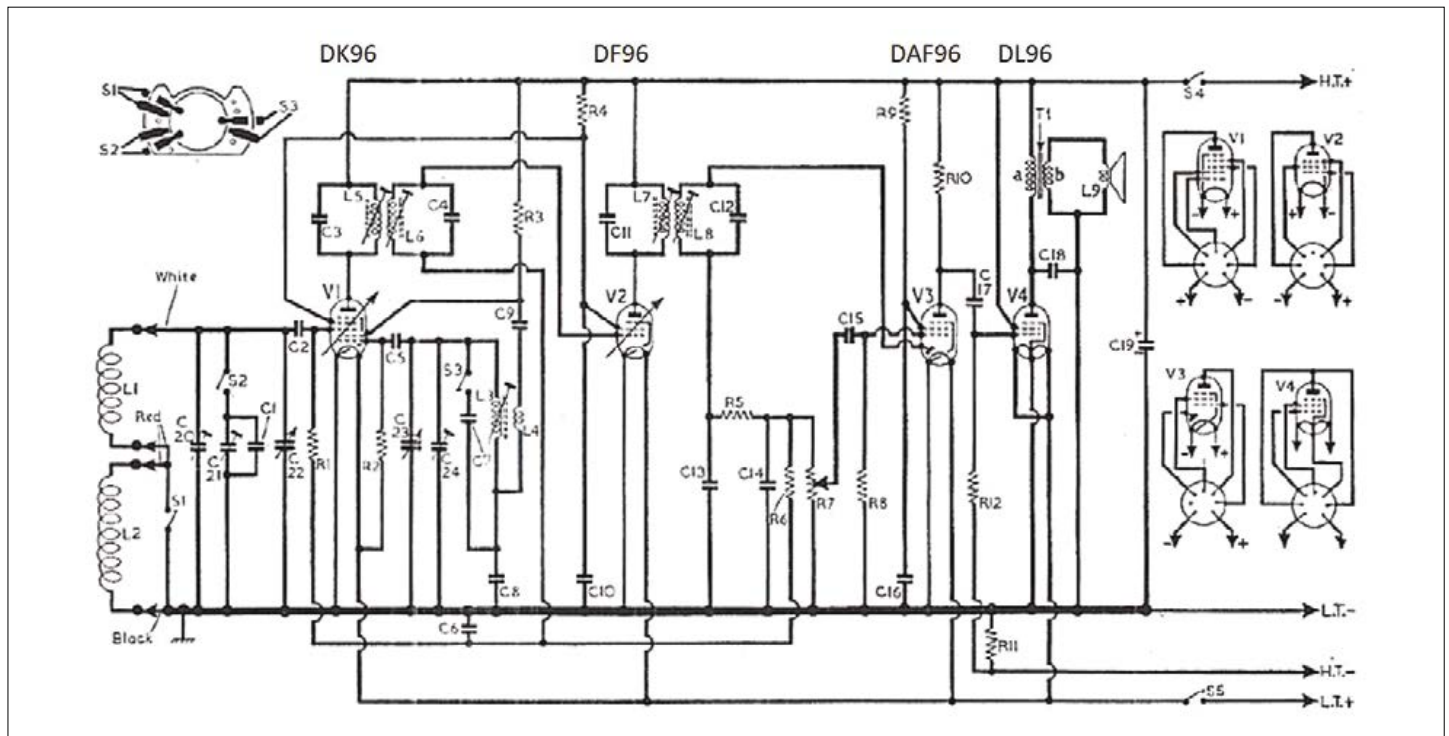

Figure 3. Circuit diagram taken from the *Trader Service Sheet* for the P87BQ radio [3].
Referring to **Figure 3**, the circuit itself is pretty straightforward. A tube lineup like the Dx96 series was designed by Philips/Mullard for a certain basic circuit configuration, allowing set makers to add features like tone controls or multiple band coverage. The DK96 heptode (V1) is used as a classic RF amplifier and mixer. For the MW band switch S1 is closed (low inductance), while S2 and S3 are open (low capacitance). For the LW band S1 is opened (both frame antennas in series) while S2 and S3 are closed. The intermediate frequency (IF) is 470 kHz and the IF signal is amplified by a DF96 (V2). The diode section of V3 (DAF96) rectifies the IF amplified signal by short circuiting its positive portion to ground via the diode in V3. This will result in a negative DC voltage across C14 onto which the AC audio signal is superimposed. This signal is further smoothed by R6 and C6 and used for the automatic gain loop (AGC). A large signal results in a more negative feedback voltage, which in turn reduces the bias on the control grids of V1 and V2, hence reduces the gain (V2 is a variable- μ pentode). The audio signal is finally amplified by V3 (DAF96) and V4 (DL96). The negative control grid bias for V4 is obtained from the voltage drop of the total current drawn from the anode battery via resistor R11. With a total current of slightly less than 10 mA and a resistance value of 470 ohms for R11 the grid bias of V4 amounts to -4.5 V. Since the trick involves feeding the rest of the circuit through R11, the high voltage supply for the circuit proper has to be adequately decoupled, which is done with battery reservoir capacitor C19.